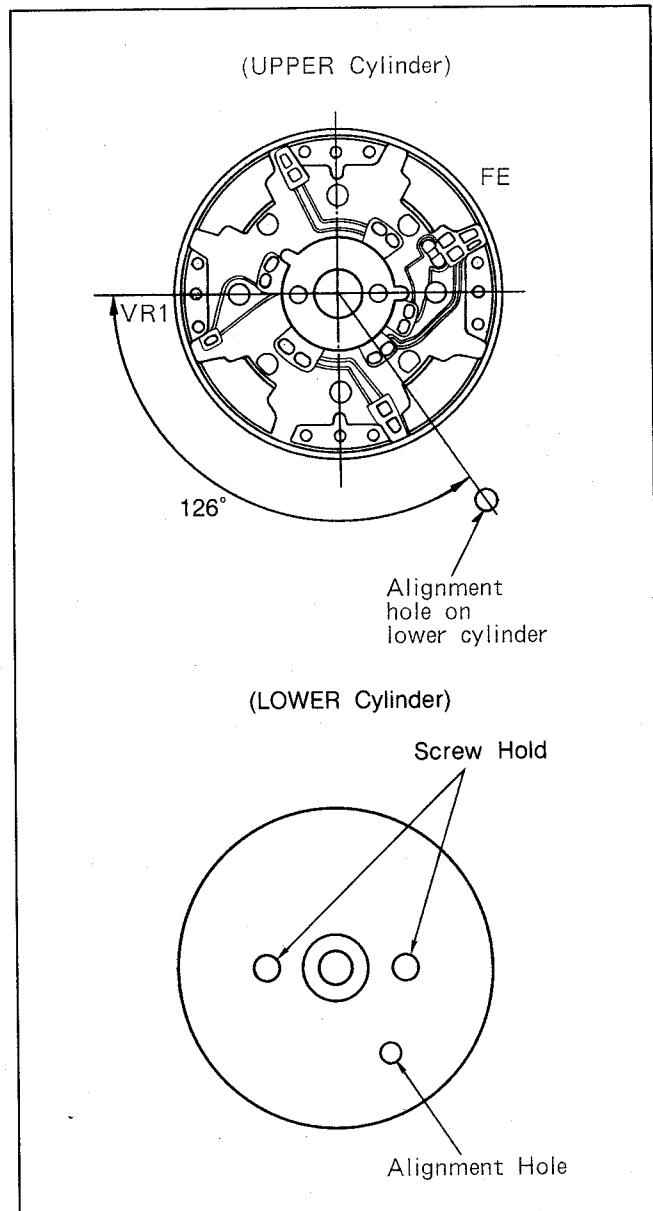

Fig. R2
4. The Upper Cylinder Unit can be reinstalled by reversing the removal procedure, however, when the Upper Cylinder is reinstalling, be extremely carefully so that VR1 of upper cylinder should be align 126' from lower cylinder alignment hole as Fig. R2.